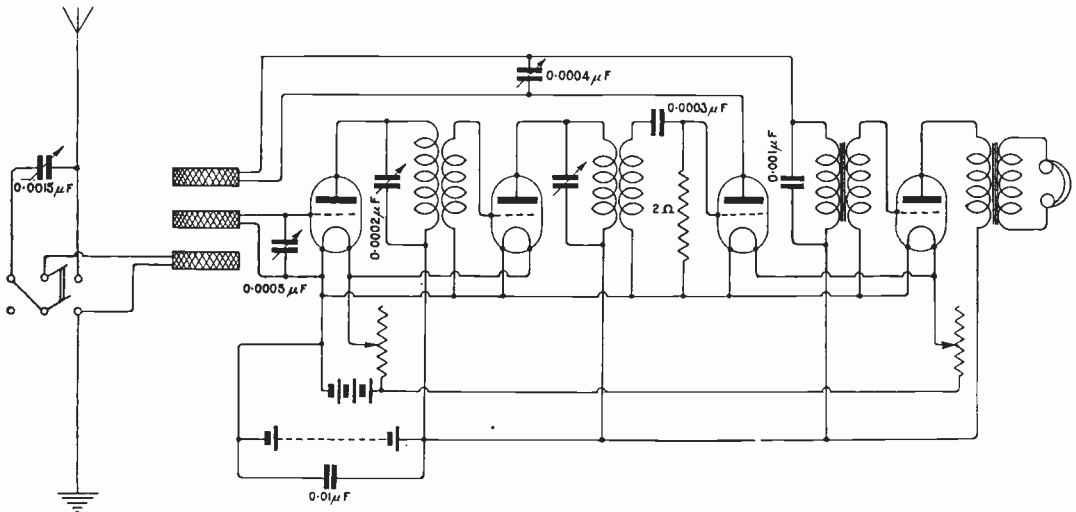

Fig. 2.
"W.D.L." (N.12).—There are many multivalve circuits given in back numbers of this journal suitable for operating a loud speaker. It is difficult to arrange H.F. amplification to cover such a wide range of wavelengths, and we suggest interchangeable high frequency transformers up to 2,000 metres, after which resistance capacity coupling is substituted. The method of doing this is shown on page 741 of September 2nd issue, where also are shown switches for throwing H.F. and L.F. valves in and out of circuit. We would also refer you to the diagram, Fig. 9, on page 743 of the September 2nd issue; also Fig. 2 and the explanatory text concerning it on page 705 of August 26th issue as a good guide.
(1) and (3) See Fig. 2. (2) Yes. (4) No, a correctly designed valve to telephone transformer with L.R. telephones is the better arrangement, although if it is necessary to economise there is no harm in putting the H.R. telephones directly in the plate circuit.
(1) See Fig. 2 and switching arrangements shown in September 30th issue. (2) You may add coils to the aerial and closed circuits. We